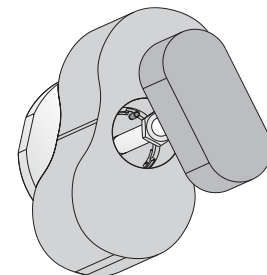

Figure 5
4. Remove the rotor locking tool **111**. Ensure that the blades of the other rotor are not overlapping the hub of the rotor being removed. Said rotor can be removed by hand or by using the extraction tool **111**. Said tool has been inserted at the base of the rotor (figure 5), and then turned until it locks. The rotor is then removed, either by pulling on the tool, or by using the rotor locking tool **111** or the lock nut at the end of the spindle as an extraction tool.